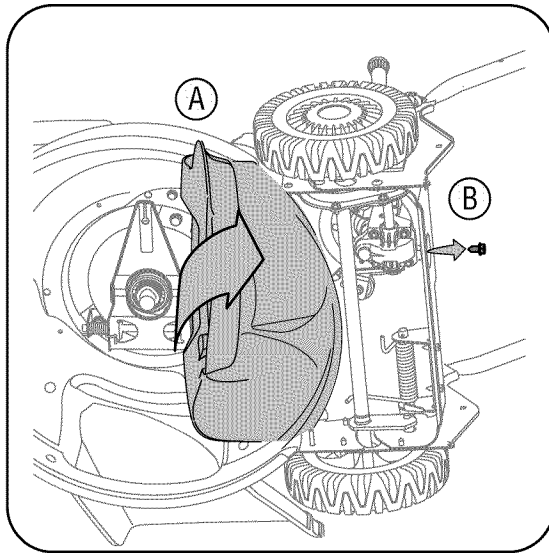

Figure 17
6. Lift baffle towards the rear of the mower. Remove the hex bolt from the rear of unit holding the transmission to the mower housing. See Figure 17.